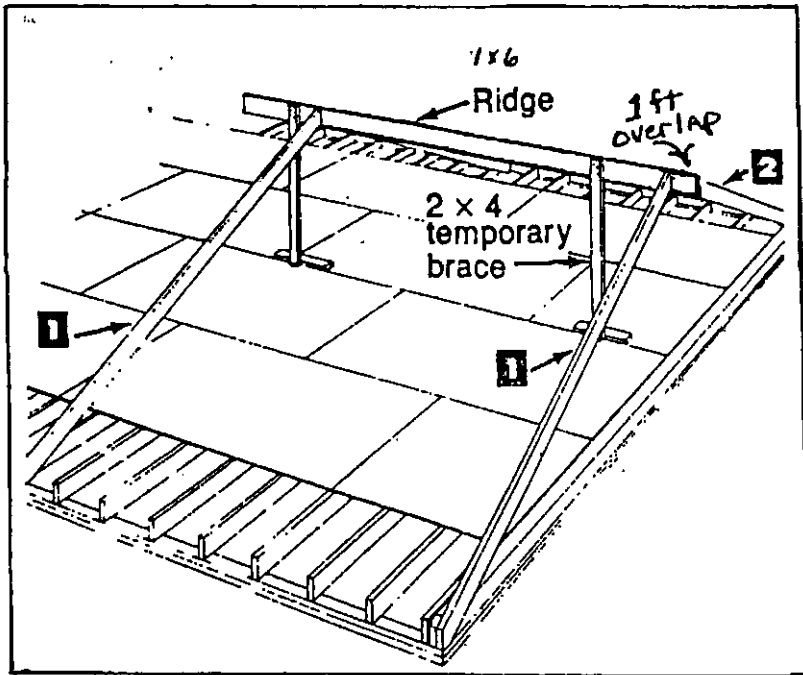

FIGURE 47
1. To give an overhang on each end of the roof, cut a 1 x 6 board 1½-2 feet longer than the overall length of the walls to be roofed. (See Fig. 47)
3. Cut two 2 x 4's the length of X° (from steps 7 or 4A). Place the two rafters nailed to the ridge plate in place, using the two 2 x 4's for temporary braces as a vertical support nailed into ridge plate and ceiling. (See Fig. 47 & 48)